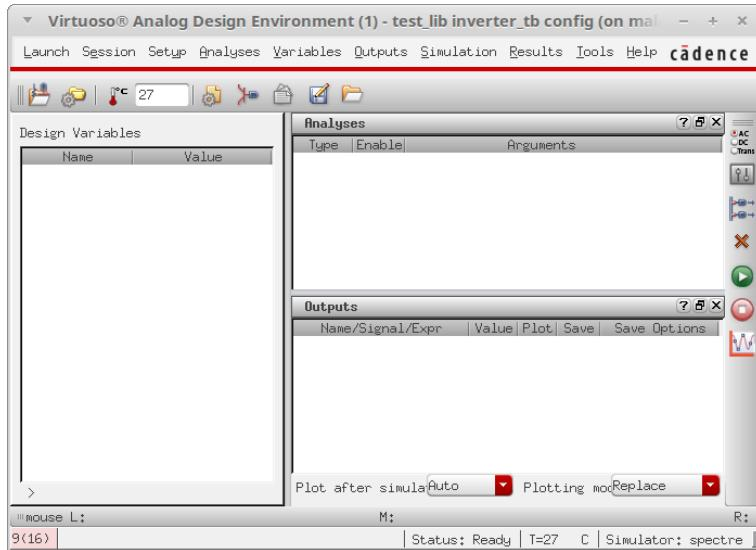

Figure 27: Virtuoso Analog Design Environment window
1. In the Virtuoso Schematic Editor click on Launch→ADE L and the Virtuoso Analog Design Environment window will pop-up (see Fig. 27).